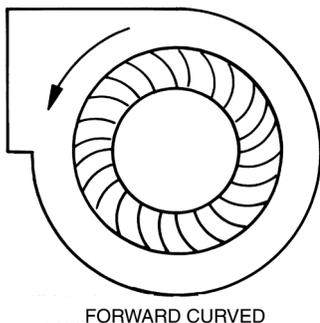

Fig. 79 – Fan Wheel Rotation
1. Check direction of rotation (see Fig. 79). Arrow on drive side of fan housing indicates correct direction of rotation.